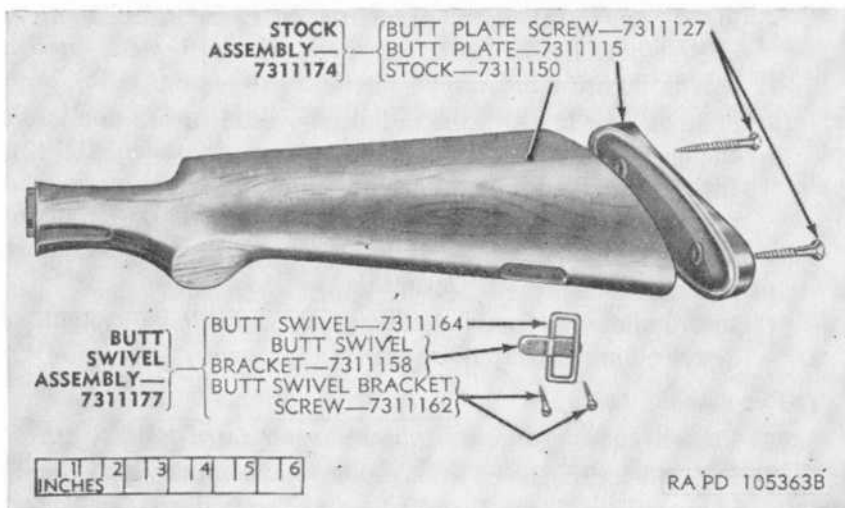

Figure 43. Stock group for Stevens Shotgun M520-30—exploded view.
(figs. 43 and 44)
- (1) *Stock group for Stevens shotgun M520-30* (fig. 43).
(1) *Stock group for Stevens shotgun M520-30 (fig. 43).*